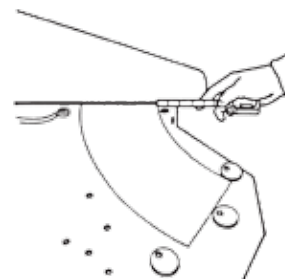

Figure 4
7. Without removing the liner paper, place a 6" wide sleeve on the table top against the stop. (See Figure 4.)